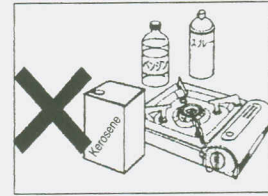

Fig.25
1. Do not place any inflammable material under or around the unit. (Fig. 25)